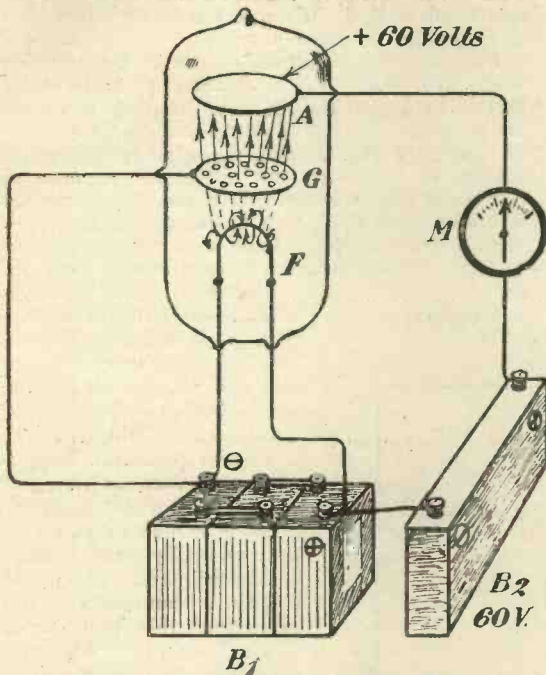
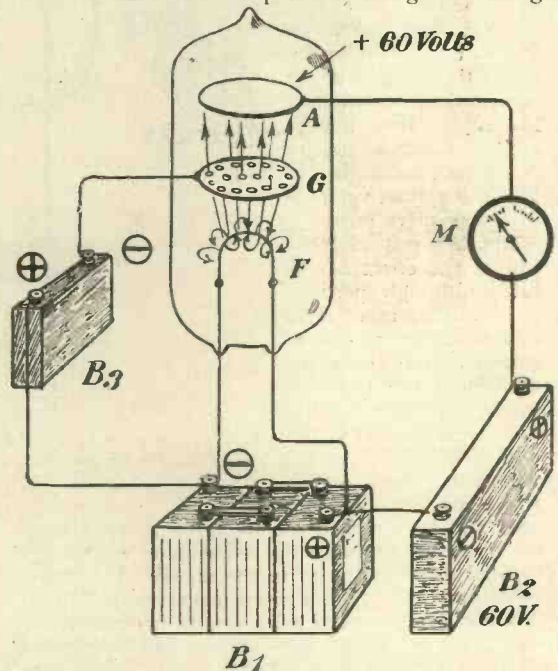

Fig. 2.—Diagram relating to grid action.
Fig. 3.—A modified circuit relating to grid action.
The grid in a valve is for the purpose of controlling the steady flow of electrons from the filament to the anode and round the anode circuit. Its control action is not a mechanical, but an electrical one. The potential voltage of the grid will determine very largely the amount of the anode current; in other words, the number of electrons flowing from the filament to the anode. The effect of the grid will best be understood by reference to Fig. 2. We have here a valve V containing a filament F, a flat grid G consisting of a disc of metal with a large number of holes in it, and another disc A which is the anode. Across the anode and the filament we have a high-tension battery B_2 , a milliammeter (M) being connected in the circuit to measure the current in milliamperes flowing in the anode circuit.
Fig. 3 shows a similar circuit to Fig. 2, except that a battery B_3 of 4 volts has been connected in between the grid and the negative side of the accumulator B_1 . The negative terminal at B_3 is connected to the grid, whereas the positive terminal is connected to the accumulator and therefore to the filament F . The grid is now at -4 volts, and it will be found that the current through the milliammeter has been considerably reduced. This is because the grid, being now at a negative potential, will repel some of the electrons which would have gone to the anode. The negative charge on the grid partially neutralises the positive voltage on A . The electrons which are prevented from getting to the anode A return again to the filament. As long as the battery B_3 is connected in the grid circuit, the anode current will remain at a reduced value.
anode. We considered in our original Fig. 2 that half the electrons emitted went to the anode, the other half returning to the filament. If, however, we go on increasing the positive voltage of the grid, most of those electrons which reluctantly stayed behind are induced to join in the main stream and pass to the anode. If we keep on increasing the positive voltage of the grid, a point will be reached when the grid has helped all the electrons emitted from the filament to go to the anode and under these conditions the anode current is said to be saturated. Any increase in the positive grid potential will not result in any greater increase of anode current.
The slightest change in grid voltage will cause a large variation in the anode current. We are controlling with very small forces a large force in the anode circuit of the valve. The anode battery supplies the energy for the anode circuit, but this energy does not get mixed up at all with the input energy. The anode and the grid circuits are kept absolutely distinct. In Fig. 3, the anode circuit consists of a filament, anode A, milliammeter M, high-tension battery B₂, and the filament F again. The grid circuit, however, is G, the battery B₃, the filament F.